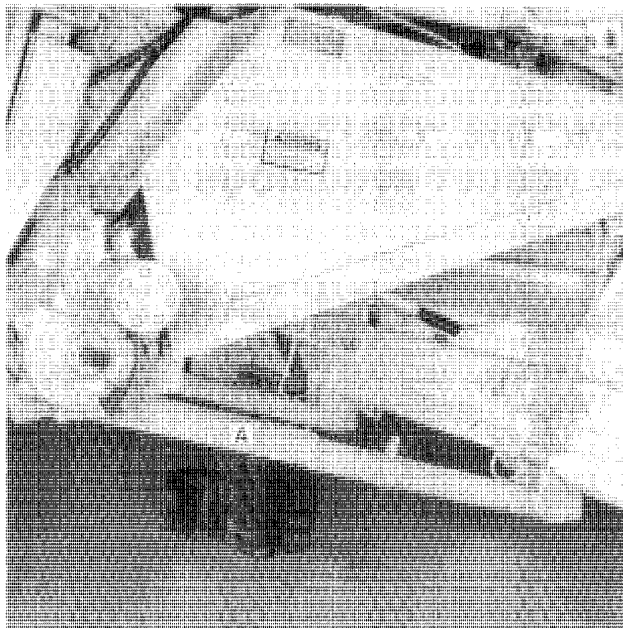

FIGURE 0-1
- 8. DO NOT WORK UNDER THE HEAD WHEN IT IS IN THE RAISED POSITION UNLESS IT IS PROPERLY BLOCKED OR THE CYLINDER STOP, A, FIGURE 0-1, IS DOWN AND LOCKED.**